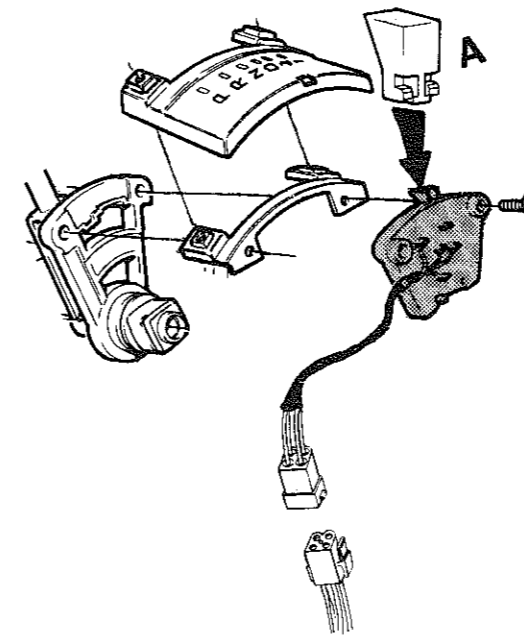

Fig. 6.36 Later type automatic transmission selector cover and associated components (Sec 34)
- 6 Proceed as above, but note the different selector cover fittings (Fig. 6.36).